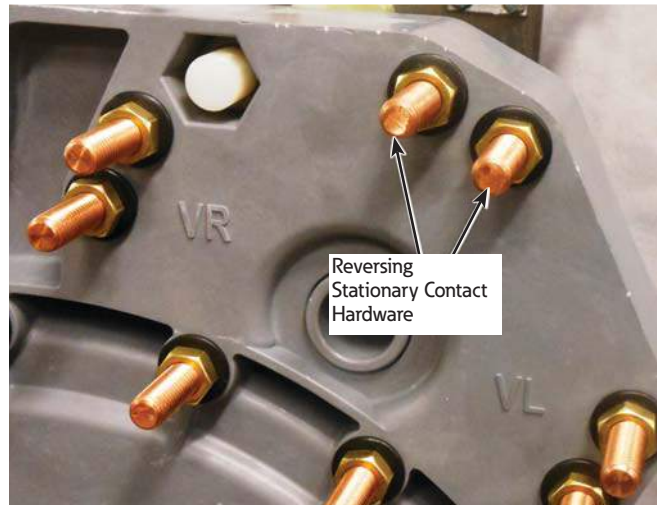

Figure 10. Reversing neutral stationary contact
10. Use a 3/4" wrench to loosen and remove the nuts and flat washers from both of the reversing neutral stationary contacts on the back of the tap-changer contact panel. See Figure 10.